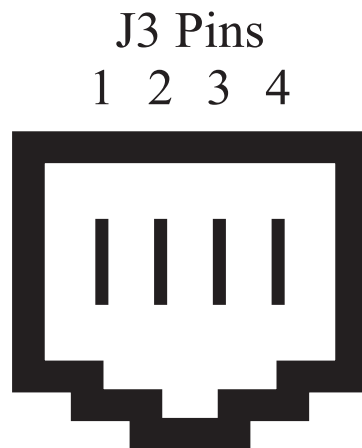

Figure13-4: J3 - RJ-11/RS-422 Jack Pinout
- Figure 13-4 on 81 provides the pinouts for J3, the RJ-11/RS-422 Network Connection.